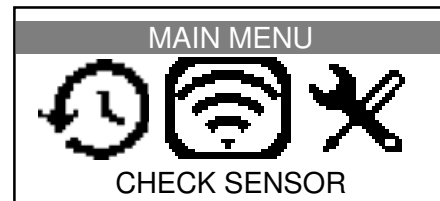

Fig. 3
- Then reverts to the **MAIN MENU** as Fig. 3.